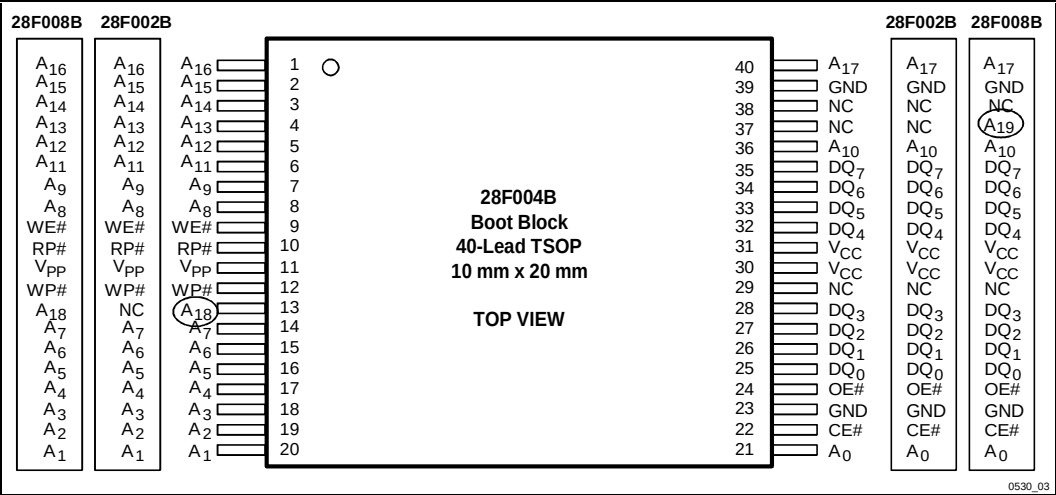
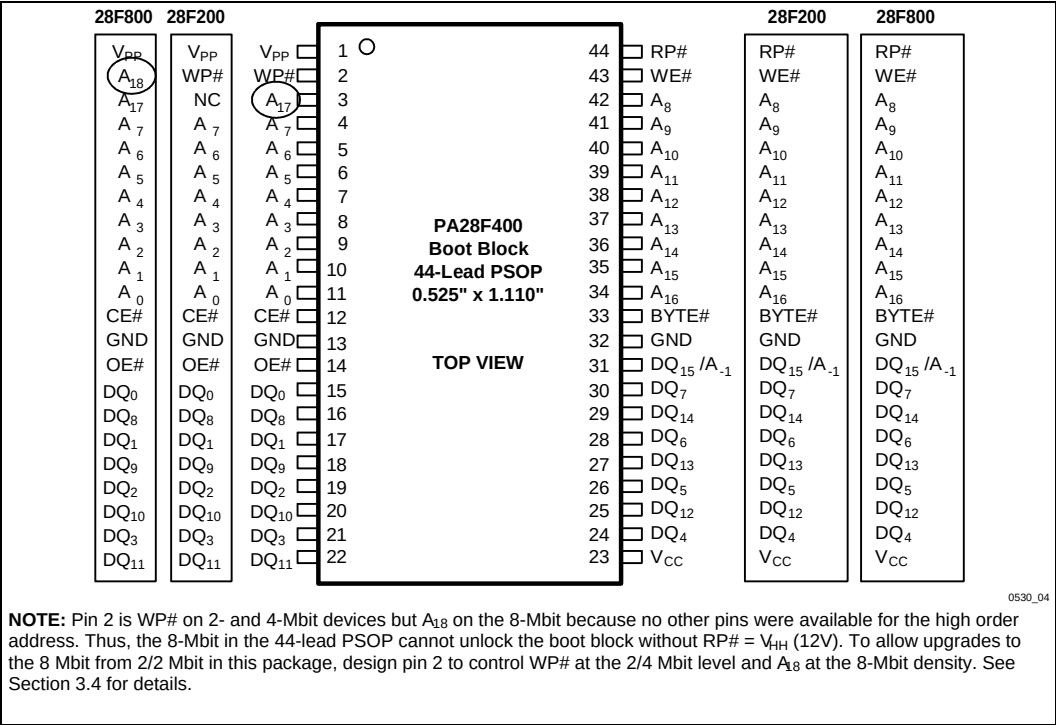
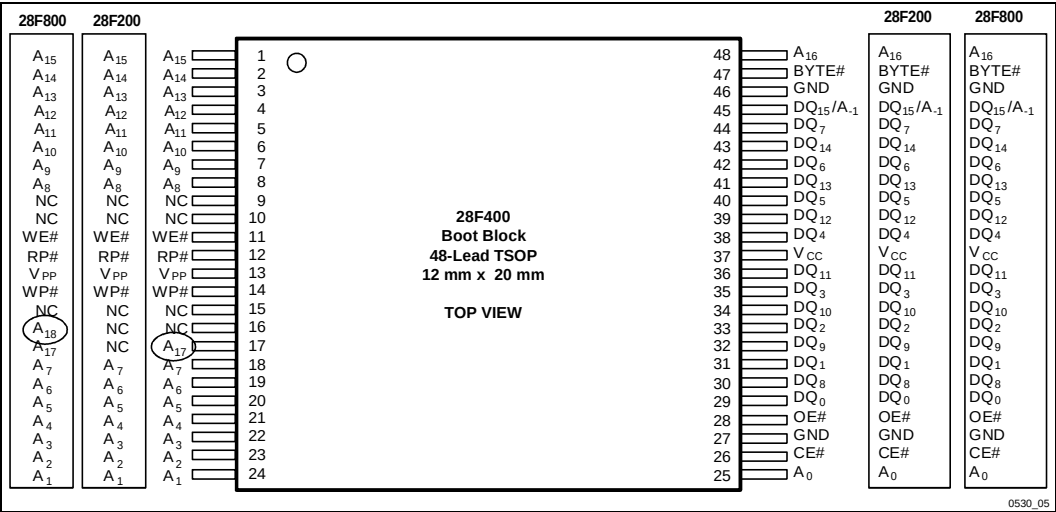
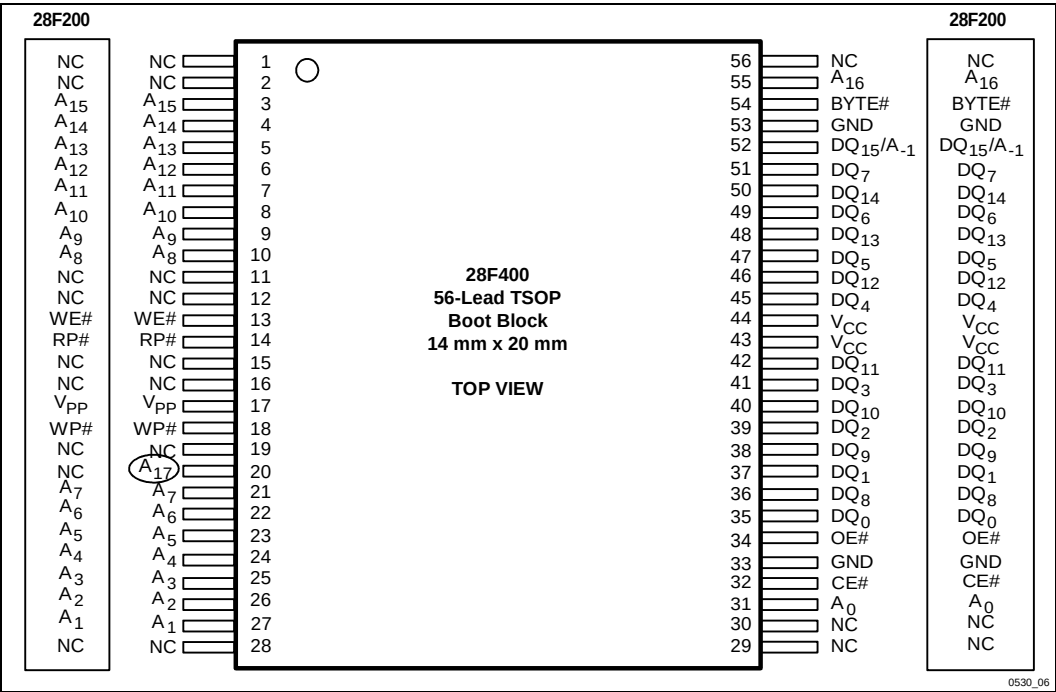

Figure 3. The 40-Lead TSOP Offers the Smallest Form Factor for Space-Constrained Applications
Figure 4. The 44-Lead PSOP Offers a Convenient Upgrade from JEDEC ROM Standards
Figure 5. The 48-Lead TSOP Offers the Smallest Form Factor for x16 Operation
Figure 6. The 56-Lead TSOP Offers Compatibility between 2 and 4 Mbits
-002	Status changed from Product Preview to Preliminary 28F400CV/CE/BE references and information added throughout. 2.7V CE/BE specs added throughout. The following sections have been changed or rewritten: 1.1, 3.0, 3.2.1, 3.2.2, 3.3.1, 3.3.1.1, 3.3.2, 3.3.2.1, 3.3.3, 3.3.4, 3.6.2. Note 2 added to Figure 3 to clarify 28F008B pinout vs. 28F008SA. Sentence about program and erase WSM timeout deleted from Section 3.3.3, 3.3.4. Erroneous arrows leading out of error states deleted from flowcharts in Figs. 9, 10. Sections 5.1, 6.1 changed to "Applying V_{CC} Voltages." These sections completely changed to clarify V_{CC} ramp requirements. I_{PPD} 3.3V Commercial spec changed from 10 to 5 μA. Capacitance tables added after commercial and extended DC Characteristics tables. Test and slew rate notes added to Figs. 12, 13, 19, 20, 21. Test configuration drawings (Fig. 14, 22) consolidated into one, with component values in table. (Component values also rounded off). t_{ELFL}, t_{ELFH}, t_{AVFL} changed from 7 to 5 ns for 3.3V BV-60 commercial and 3.3V TBV-80 extended, 10 to 5 ns for 3.3V BV-80 and BV-120 commercial. t_{WHAX} and t_{EHAX} changed from 10 to 0 ns. t_{PHWL} changed from 1000 ns to 800 ns for 3.3V BV-80, BV-120 commercial. t_{PHL} changed from 1000 ns to 800 ns for 3.3V BV-60, BV-80, and BV-120 commercial.
The 28F400 products are available in a ROM/EPROM-compatible pinout and housed in the 44-lead PSOP (Plastic Small Outline) package, the 48-lead TSOP (Thin Small Outline, 1.2 mm thick) package and the 56-lead TSOP as shown in Figures 4, 5 and 6, respectively. The 28F004 products are available in the 40-lead TSOP package as shown in Figure 3.
Intel's SmartVoltage Boot Block architecture provides upgrade paths in every package pinout to the 8-Mbit density. The 28F004B 40-lead TSOP pinout for space-constrained designs is shown in Figure 3. The 28F400 44-lead PSOP pinout follows the industry-standard ROM/EPROM pinout, as shown in Figure 4. For designs that require x16 operation but have space concerns, refer to the 48-lead pinout in Figure 5. Furthermore, the 28F400 56-lead TSOP pinout shown in Figure 6 provides density upgrades to future higher density boot block memories.
This product family features an asymmetrically-blocked architecture providing system memory integration. Each erase block can be erased independently of the others up to 100,000 times for commercial temperature or up to 10,000 times for extended temperature. The block sizes have been chosen to optimize their functionality for common applications of nonvolatile storage. The combination of block sizes in the boot block architecture allow the integration of several memories into a single chip. For the address locations of the blocks, see the memory maps in Figures 4 and 5.